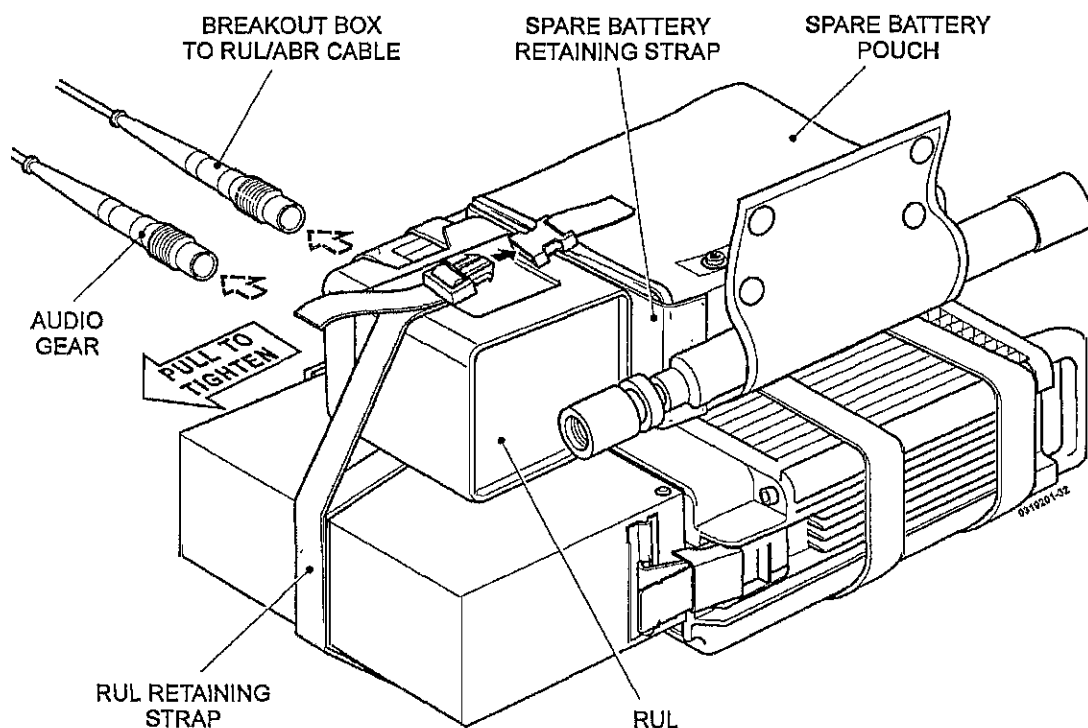

Fig 25 RUL storage in the manpack carry container
94.2 Disconnect the field wire from the RUL. With the RUL connected to the manpack station and/or to the local audio gear as required, stow the RUL in the manpack carry container as shown in Fig 25.